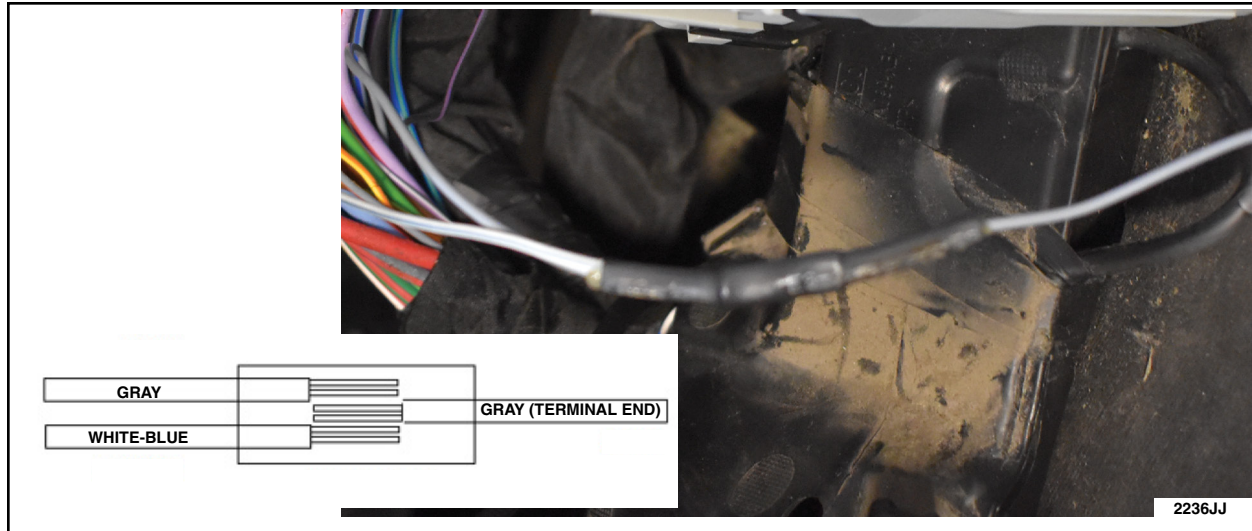

FIGURE 41
47. On the gray terminal end fold the exposed wire in half before placing in splice butt connector. This will allow good contact with the butt splice connector. Place wires in splice butt connector. See Figure 41.